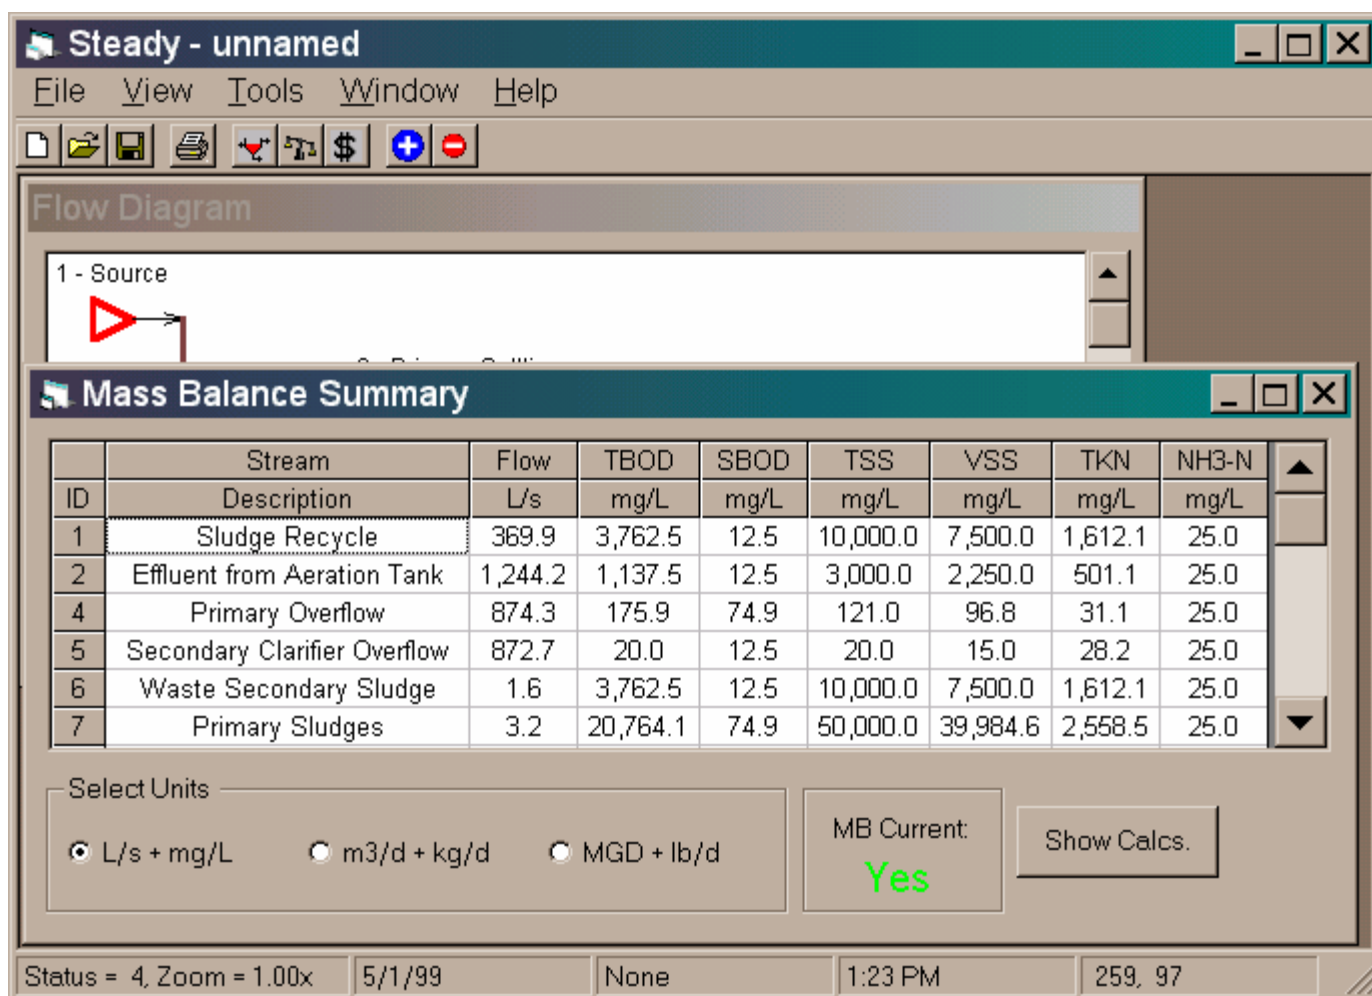

Figure 10 - Mass Balance Summary
20. Next, run the mass balance. Press the  button in the Toolbar. At the end of the iterations you will be asked if you want to see the results, select **Yes**. The Mass Balance Summary window will then display the properties of each stream in the layout, as shown in Figure 10.